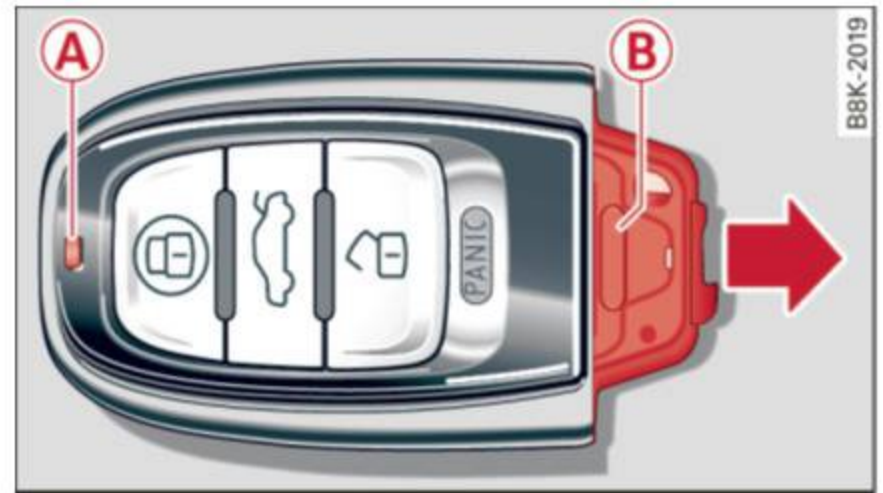

Fig. 20 Remote master key: removing the battery holder
The check light (A) ⇒ fig. 20 in the master key provides information about different conditions.
- ▶ Press the release button (B) ⇒ fig. 20 on the battery holder and at the same time pull the battery holder out of the master key in the direction of the arrow.